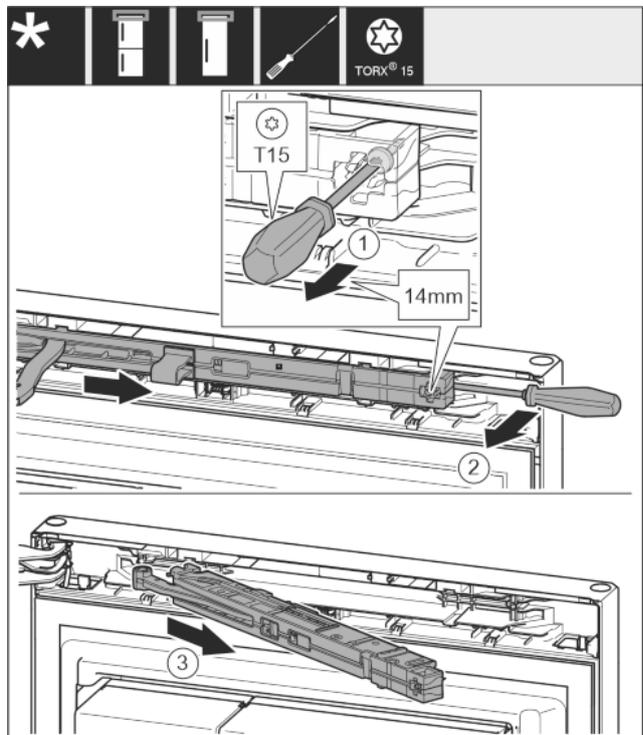

Fig. 9
- ▶ Undo the soft stop mechanism screw with a T15 screwdriver approx. 14 mm. Fig. 9 (1)
- ▶ Insert a screwdriver behind the soft stop mechanism on the handle side and rotate forwards. Fig. 9 (2)
- ▶ Remove the soft stop mechanism. Fig. 9 (3)